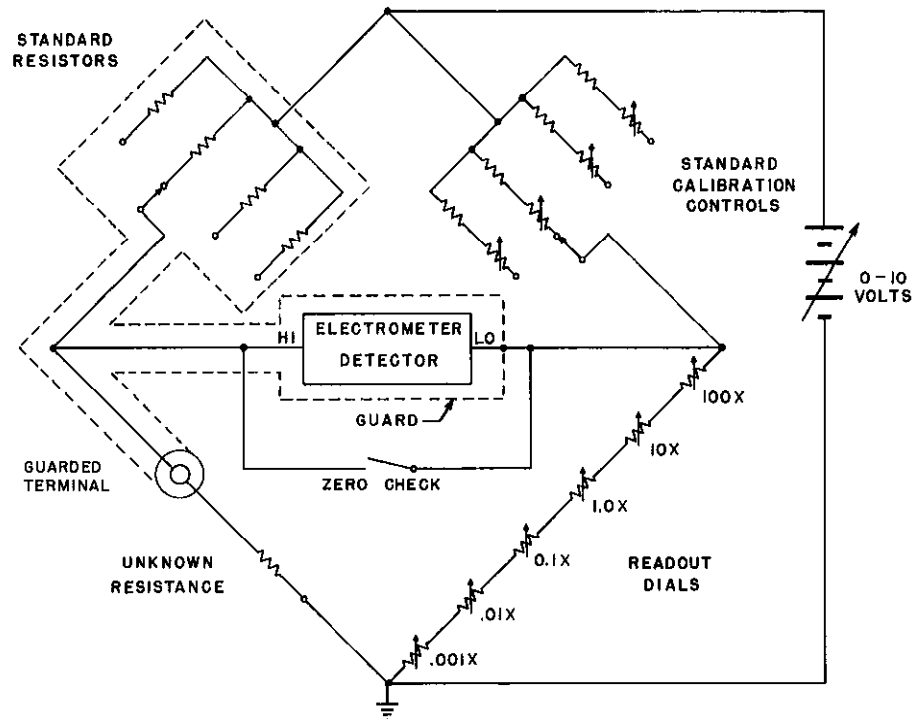

Fig. 3 Model 515 Megohm Bridge, Simplified Schematic Diagram
Fig. 3 is a simplified schematic diagram showing the electrical connections of the standard and readout resistors, the unknown, the null detector, and the guarding. A more extensive discussion of the circuit operation and guarding will be found in Section IV Circuit Description.
4. Accuracy of the Readout Resistors, the Standard Resistors, and the Standard Calibration Controls. (See Fig. 3 for the location of each of them in the Wheatstone Bridge Circuit).
Guarding, as described in Fig. 3 Section III E, is used extensively in the construction of the Model 515 Megohm Bridge to